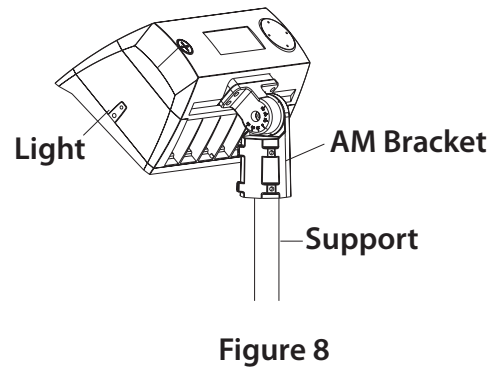

Figure 8
Step 2: Loosen the fixing bolts and adjusting bolts, align the fixture to required angle. Tighten adjusting bolt and fixing bolts after the angle is confirmed. (Figure 8)